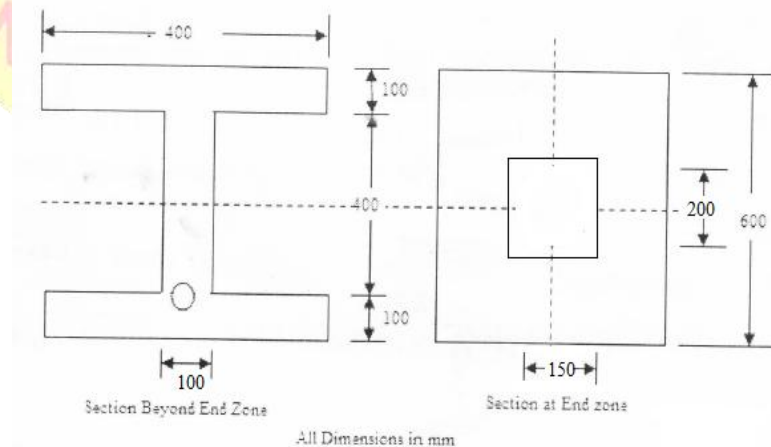

Figure 3
12. Design the bearing plate and the end zone reinforcement for the following bonded post-tensioned beam shown in figure 3. The strength of concrete at transfer ( $f_{ci}$ ) is  $50\text{N/mm}^2$ . A prestressing force of  $1055\text{kN}$  is applied by a single tendon symmetrically placed over a mild steel anchor of size  $150\text{mm} \times 200\text{mm}$ . Permissible bending stress for the bearing plate is  $165\text{ N/mm}^2$ . There is no eccentricity of the tendon at the ends. Use Fe250 grade steel for reinforcement.